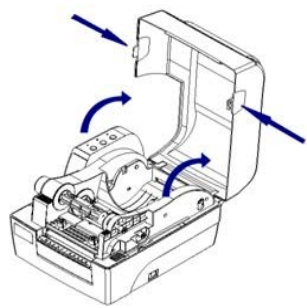

Figure 2.2.1
- 1) Push the top cover upward with both hands according to the arrow shown in figure 2.2.1 to open it;